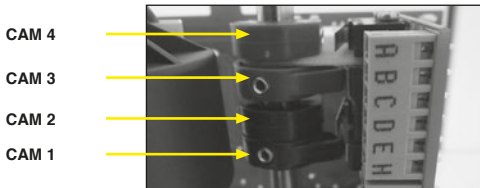

Fig.7 Particular of the cams of limit switches
6.6 Setting actuator stop positions (Fig.7)